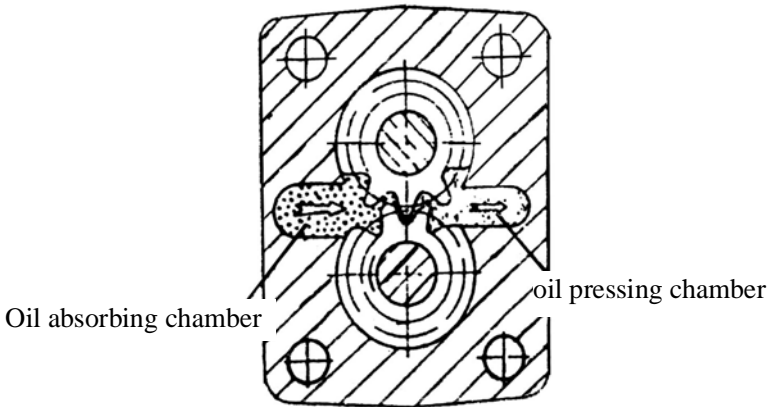

Fig.6-27 Working principal of gear oil pump
②Working principal of gear oil pump (Fig. 6-27)